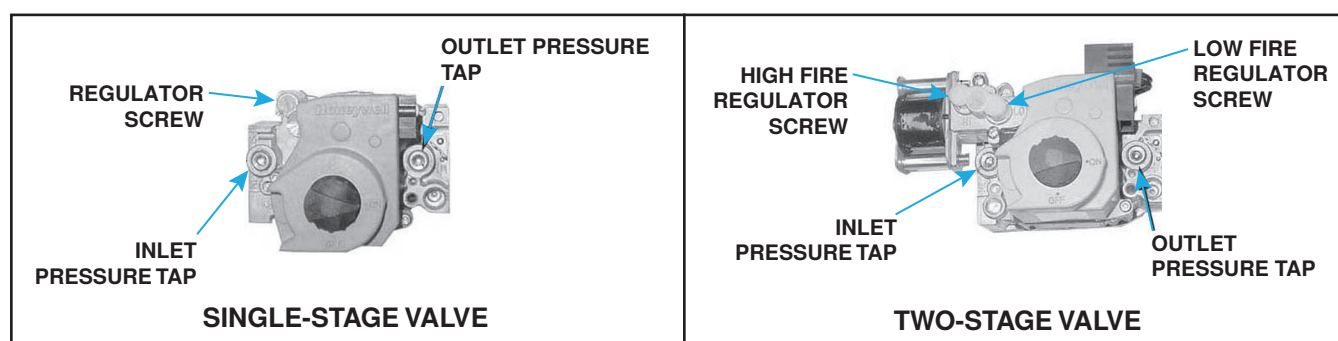

Figure 17. Combination Gas Valves
2. Connect manometer to 1/8-inch output pressure tap on valve (see Figure 17).
5. If manometer reading does not indicate that valve outlet pressure is in accordance with Table 18, remove cap from regulator screw(s) (see Figure 17) and adjust pressure by turning regulator screw IN (clockwise) to increase pressure or OUT (counterclockwise) to decrease pressure.
4. Connect manometer to 1/8-inch output pressure tap on valve (see Figure 17).
- b. Remove cap from regulator screw (see Figure 17) and adjust pressure in accordance with Table 18 by turning regulator screw IN (clockwise) to increase pressure or OUT (counterclockwise) to decrease pressure.
- b. Remove cap from low-fire regulator screw (see Figure 17) and adjust pressure in accordance with Table 18 by turning regulator screw IN (clockwise) to increase pressure or OUT (counterclockwise) to decrease pressure.
10. Connect manometer to inlet pressure tap (see Figure 17). While heater is operating, measure inlet pressure, which should be between 5 and 13.5 IN WC for natural gas or between 10 and 13.5 IN WC for propane.